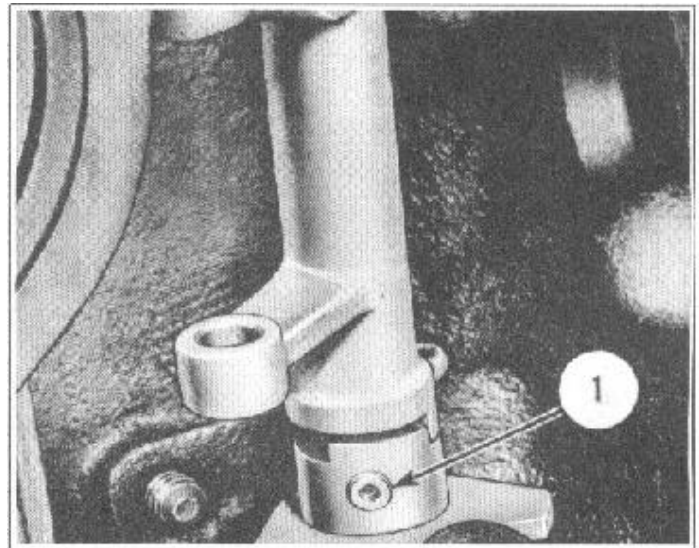

FIGURE 44
2. While holding the shaft and yoke in position, loosen set screw (1), Figure 44, using Wrench J-5482.